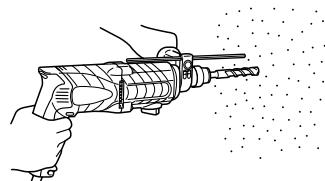

Fig. 8
- (1) Mount the drill bit.
- (2) Pull the trigger switch after applying the drill bit tip to the drilling position. (Fig. 8)
- (3) Pushing the rotary hammer forcibly is not necessary at all. Pushing slightly so that drill dust comes out gradually is just sufficient.
- When the drill bit touches an iron reinforcing rod, the bit will stop immediately and the rotary hammer will react to revolve. Therefore please grip the side handle and handle tightly as shown in Fig. 8.